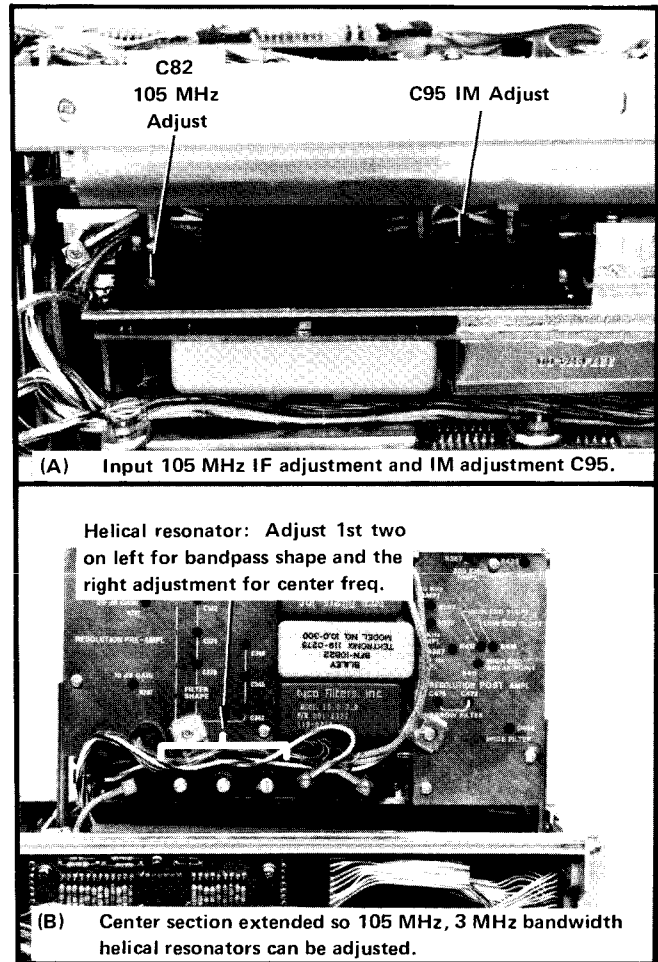
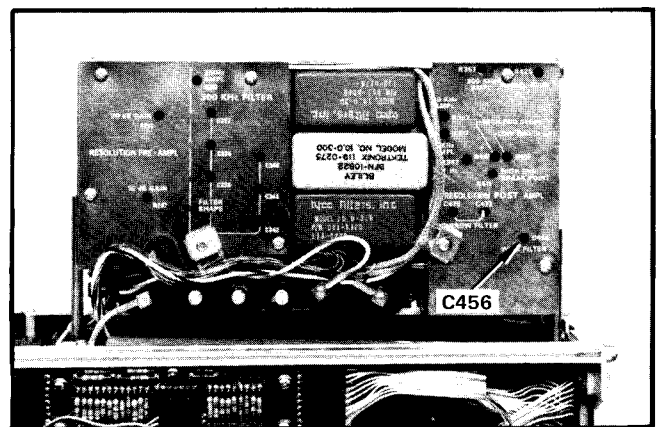
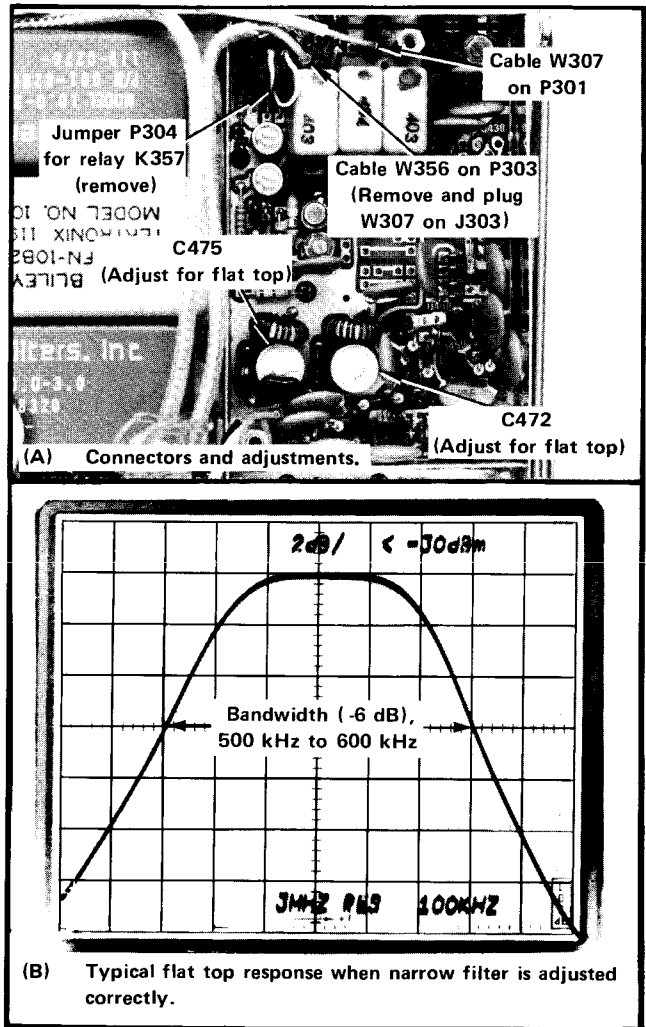

Fig. 4-13. 105 MHz IF and 3 MHz bandwidth adjustments.
Fig. 4-14. Wide-Band Filter adjust C456.
Fig. 4-16. Connections, adjustments, and typical response when adjusting the Narrow Post-Amplifier Filter.
d. Adjust the response of the 105 MHz IF amplifier, and the wide filter bandpass, with C82, the 3 MHz helical resonator. (Fig. 4-13) and C456, in the filter circuit. (Fig. 4-14) so the response is similar to that illustrated in Fig. 4-16.
- 3) Adjust C456 (Fig. 4-14) for maximum bandwidth and amplitude.